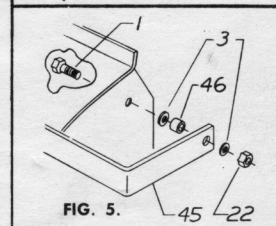

FIG. 5.
13. Remove Hex Nut (22) and one Washer (3) from both sides of Chassis and place ends of Hitch "U" Bar over Spacer (46). Place Washer (3) on Bolt (1) making sure Spacer enters hole of Hitch "U" Bar, secure with Nut (22). See Fig. 5.
14. Wind Apron: Lay Wind Apron over Hamper Assembly and attach Hooks (80) to front of Hamper. See Fig. A. Stretch cord and fasten rear Hooks to Pivot Brackets. See Fig. B.